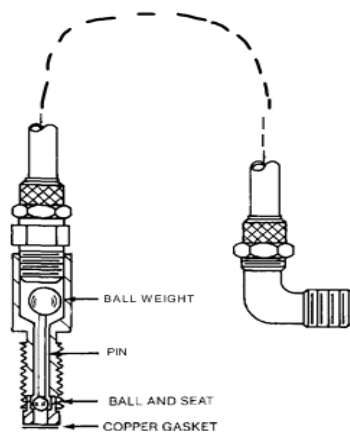

Figure 47
9.5.1 General Description – Figure 47